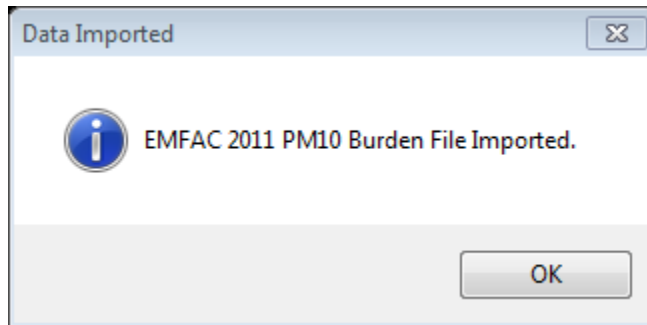

Figure 5-11 Burden File Imported
- Figure 5-11 will display as confirmation message once the burden file has been imported.